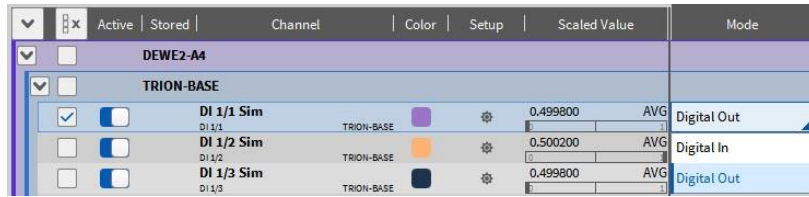
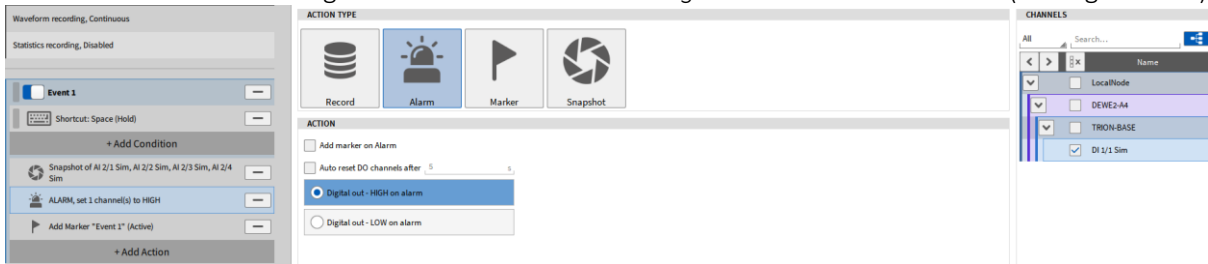

Figure 7-12: Changing the channel mode of a digital channel
Figure 7-34: Alarm Action Type
- To use connected digital channels as *Digital Out* channels the Channel Mode must be set to *Digital Out* in the *Data Channels* menu (see Figure 7-12).
- To set the Digital Channel to High state, add another Action by pressing the *+Add Action* button, select *Alarm Action Type* and select *Digital out – High on alarm* as *Action*. The Digital out channel to be set can be selected in the channel list on the right-hand side (see Figure 7-34). The channel mode of the desired Digital channel must be set to *Digital out* in the Channel List (see Figure 7-12)